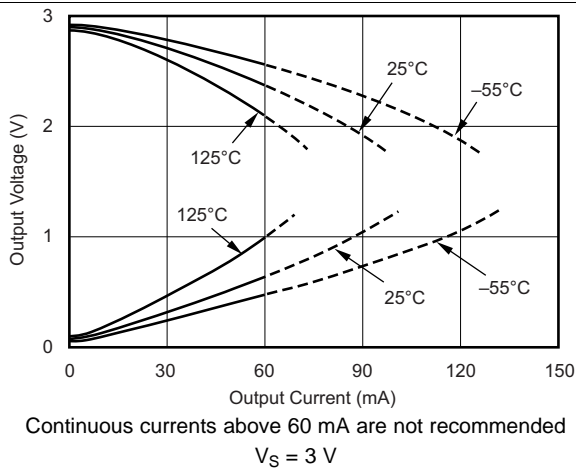
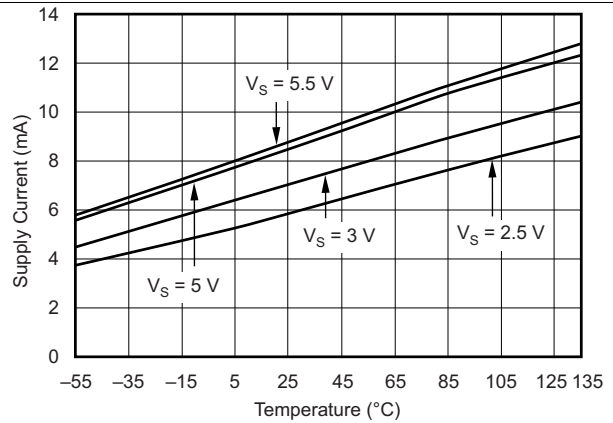
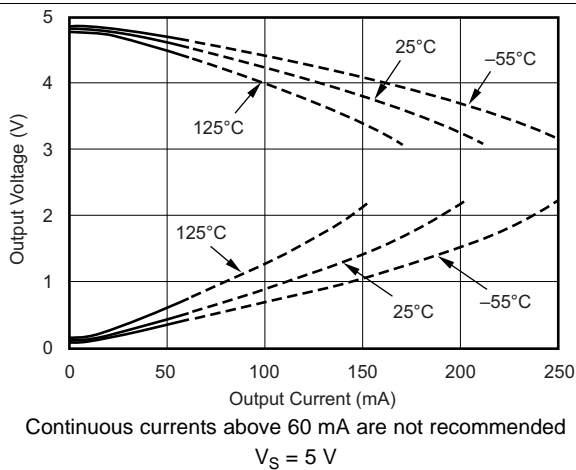

图 21. Output Voltage Swing vs Output Current
图 22. Supply Current vs Temperature
图 23. Output Voltage Swing vs Output Current
(1) See the *Output Voltage Swing vs Output Current* (图 21 and 图 23) in the *Typical Characteristics* section.
(2) Logic LOW and HIGH levels are CMOS logic compatible. They are referenced to V_- .
Running a continuous DC current in excess of ± 60 mA is not recommended. See the *Output Voltage Swing vs Output Current* graphs (图 21 and 图 22) in the Typical Characteristics section.